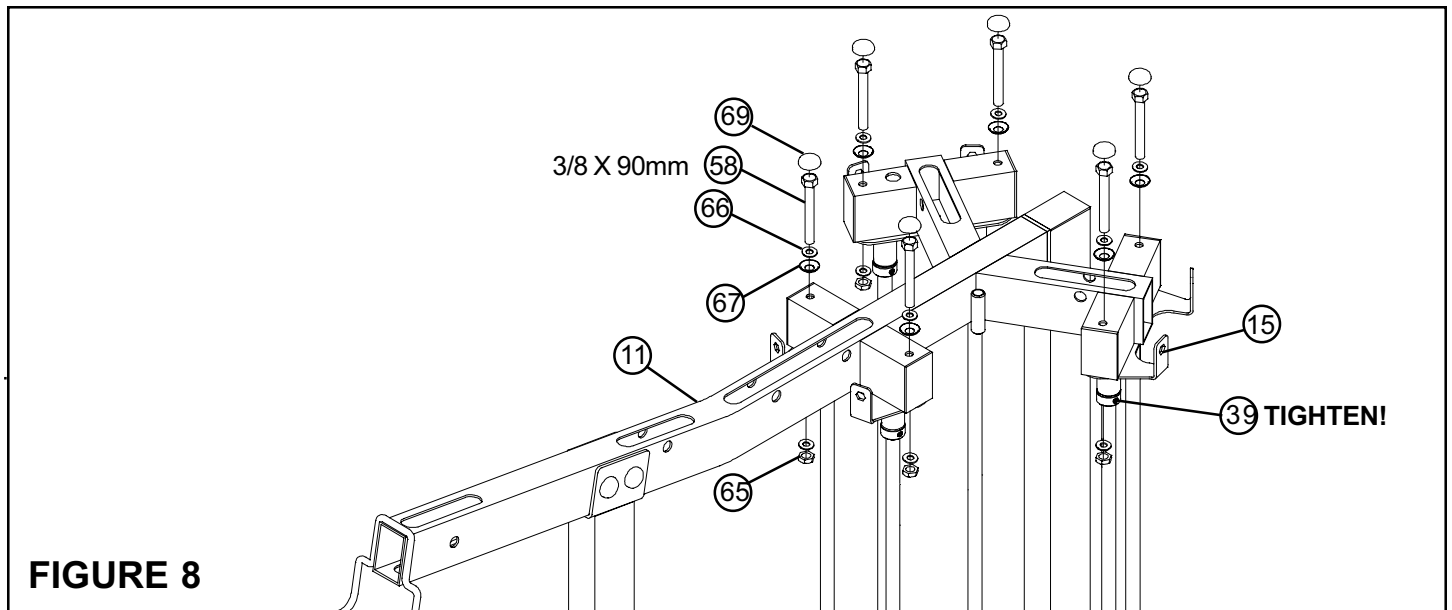

FIGURE 8
- **SECURELY** assemble the three SHROUD BRACKETS (15) to the LAT/LOW BOOM (11) using six RH CAPS (69), six 3/8 X 90mm BOLTS (58), twelve 3/8" SAE WASHERS (66), six 3/8" RH WASHERS (67) and six 3/8" LOW HEIGHT LOCK NUTS (65) as shown in FIGURE 8 (NOTE: Use RH WASHERS and RH CAPS on top only.)
- Slide the 13/16" SHAFT COLLARS (39) up against the SHROUD BRACKETS (15) and **SECURELY** tighten the set screws on the SHAFT COLLARS (39). See FIGURE 8.